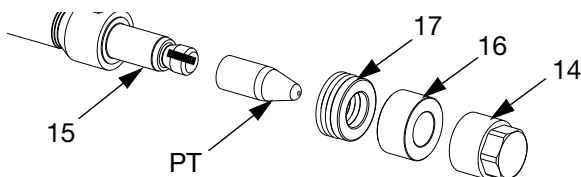

FIG. 22
1. Install piston seal installation tool (PT) from pump repair kit on displacement rod (15). Hand tighten.
2. Apply grease to seal and bearing surface of displacement rod (15).
3. Install u-cup (17) and bearing (16). Ensure u-cup springs face displacement rod. Remove piston seal installation tool (PT).
4. For 20cc-50cc pumps: Apply one stripe of removable strength thread locker to displacement rod (15) male threads and install piston retainer (14). See FIG. 22.